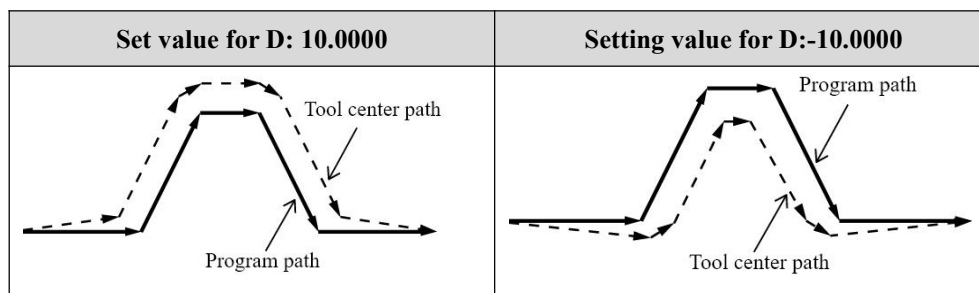

Figure 9-2 Positive and negative compensation values tool radius compensation direction is opposite
- (5) Regarding the selection of compensation plane, it is explained as follows:
- (6) Code D for tool radius compensation value is as follows:
- compensation direction is opposite when the compensation value is set to a positive value (as shown in Figure 9-2).